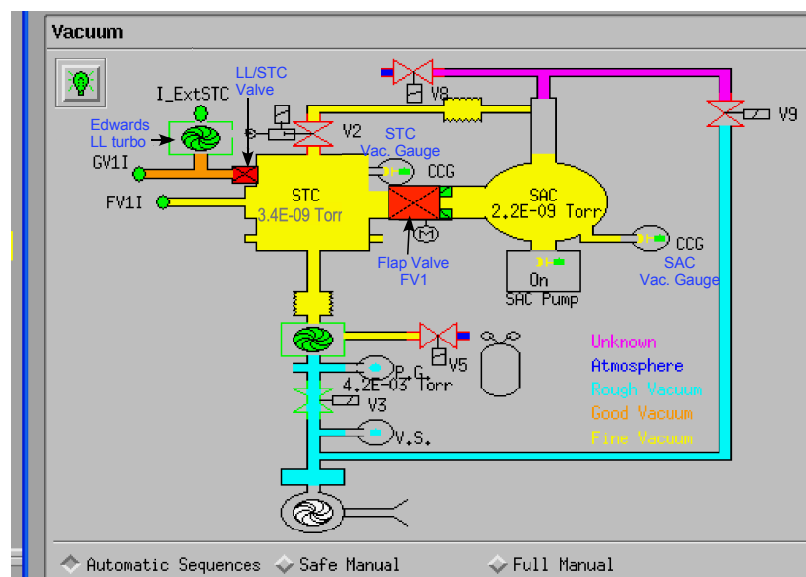

Figure 1 Vacuum Panel of Instrument Manual Control window note the LL/STC Valve, the STC/SAC Flap valve, and the Safe Manual radio button.
- 3) In the "Vacuum panel" of the "Instrument Manual Control" window, verify the "Safe Manual" radio button is selected, Figure 1.
- 3) In the “Vacuum panel” of the “Instrument Manual Control” window, Figure 1, verify the “Safe Manual” radio button is selected.